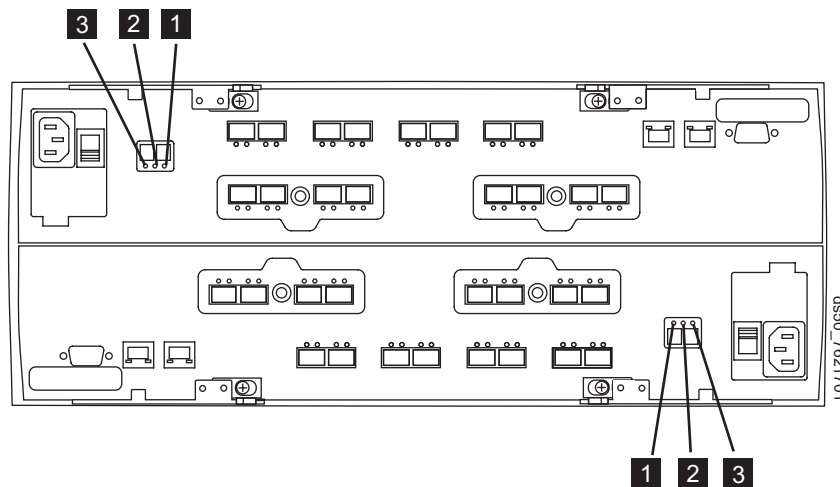

Figure 127. Controller Service Action LEDs
30. Look at the LEDs on the controller to verify the controller is rebooting correctly. Figure 127 shows the locations of the LEDs. Table 58 describes the numbered locations identified in Figure 127.